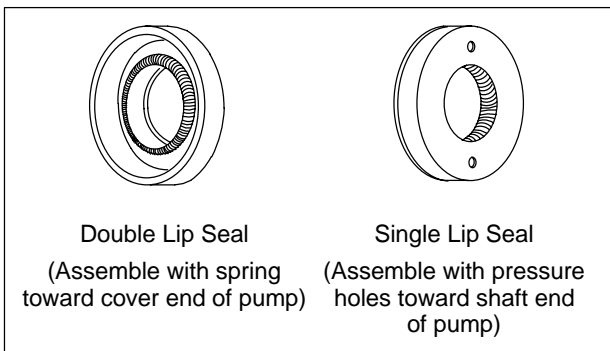

Figure 8
2. Assembly of Priority Valve Cover – See Figure 8. If the relief valve seat was removed, a new seat must be pressed into the body. Lubricate and insert the new seat chamfered end first into the cover opening. Align square and press into place. Use a short length of brass rod as a pressing tool, to prevent seat damage. Clean the relief valve bore to remove chips and filings. Insert the poppet into the bore, align square and lightly tap the stem of the poppet to mate the poppet and seat. Install the spring, shims and plug into the cover. Be sure to check the pressure setting of the relief valve against the model code. If the setting is out of tolerance, readjust by removing or adding shims. (Removing shims reduces pressure while adding shims increases pressure.)
Before assembling the shaft seal, determine the correct position of the sealing lip. (See Figure 8.) Double lip seals are assembled with the spring toward the pumping cartridge. Single lip seals have two pressure holes, which are assembled toward the shaft end of the pump.
Place the pressure plate on the locating pins and flat against the ring. Use a small amount of petroleum jelly or grease to stick the spring in the recess in the pressure plate. Carefully install the cover with the outlet port in the correct position. Tighten the cover screws to the torque shown in Figure 8. Turn the shaft through by hand to insure that there is no internal binding. Install the shaft key.